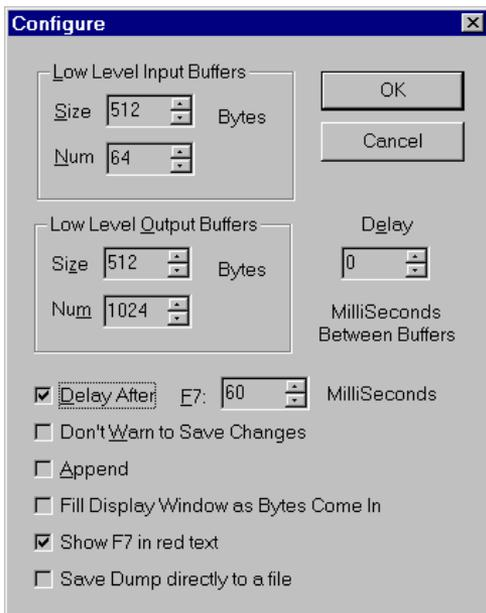

Figure 3 - Sample MIDI-OX Sysex Configuration
21. Load “**VP+xxx.syx**” where **xxx** represents the current version number. If you are using MIDI-OX make sure that there is a 60 ms delay after each F7 (one of the options in the Sysex, Configure dialog box in MIDI-OX, see Figure 3 for an example). This might not be absolutely necessary, depending on the type of MIDI device you are using.